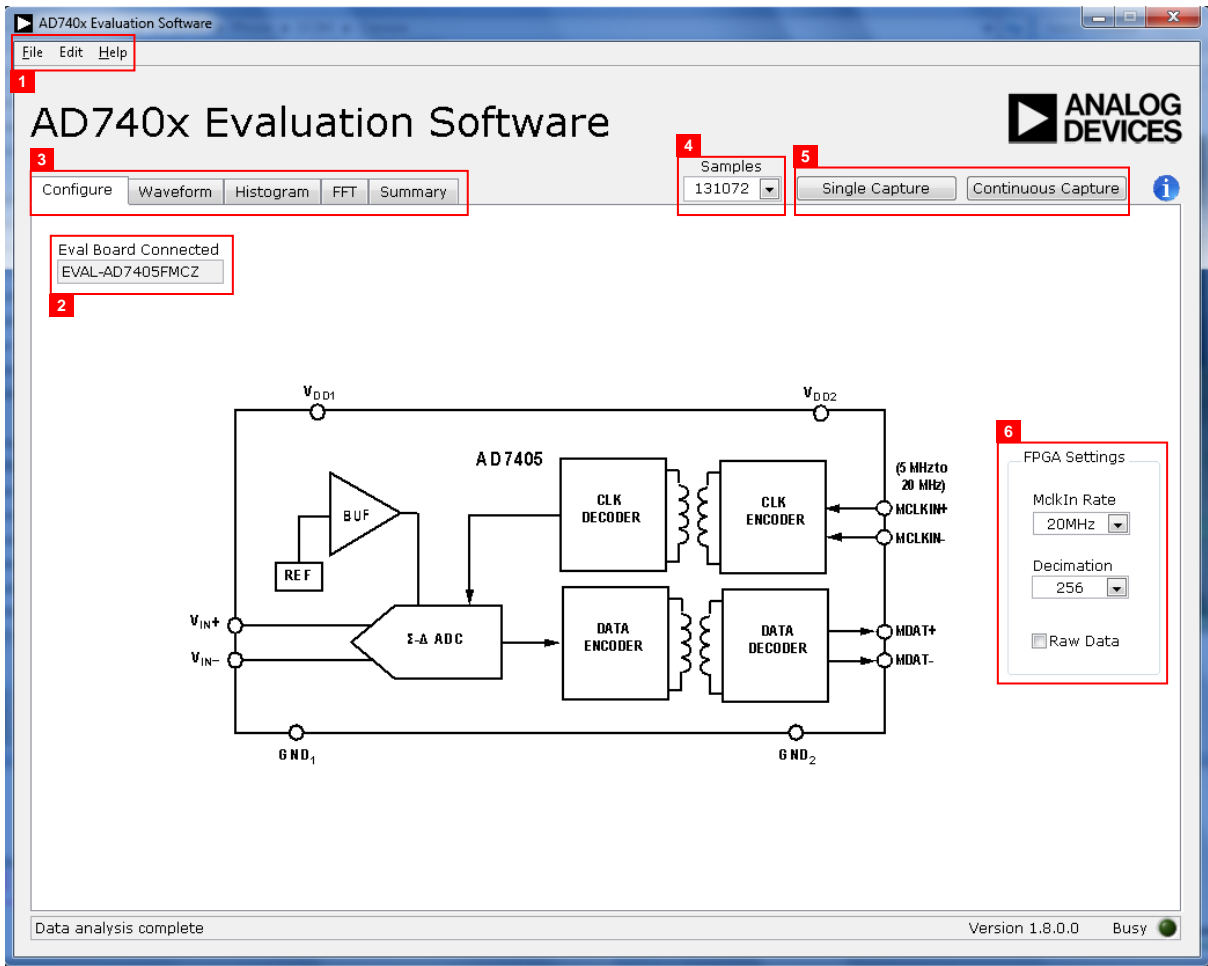

Figure 14. Evaluation Software Main Window
1. From the **Start** menu, select **Programs > Analog Devices > AD7405**. The main window of the software then opens (see Figure 14).
When the software is launched, the main software window opens (see Figure 14).
The evaluation software panel as shown in Figure 14 has the following features:
The menu bar, labeled 1 in Figure 14, consists of the **File**, **Edit**, and **Help** menus.
- The **Eval Board Connected** box (labeled 2 in Figure 14) indicates whether the **EVAL-AD7405FMCZ** board has been detected.
- The **FPGA Settings** section (labeled 6 in Figure 14) specifies the MCLK frequency used for the serial interface and the decimation ratio used by the FPGA to filter the data.
- The **Samples** drop-down box (labeled 4 in Figure 14) allows selecting the number of samples to be captured in a single acquisition.
- Clicking **Single Capture** (see label 5 in Figure 14) initiates the sampling and readback of the number of measurements defined in the **Samples** box.
- Clicking **Continuous Capture** (see label 5 in Figure 14) performs a continuous capture from the ADC. Clicking **Continuous Capture** a second time to stop sampling.
There are five tabs available in the tabs area (labeled 3 in Figure 14) of the main window: **Configure**, **Waveform**, **Histogram**, **FFT**, and **Summary**. These tabs are used to switch among device configuration, waveform analysis, histogram analysis, FFT analysis, and a summary of the last capture. Each tab is described in more detail in the *Generating a Waveform Analysis Report*; *Generating a Histogram of the ADC Code Distribution*; *Generating a Fast Fourier Transform of AC Characteristics*; and *Generating a Summary of the Waveform, Histogram, and Fast Fourier Transform sections*.